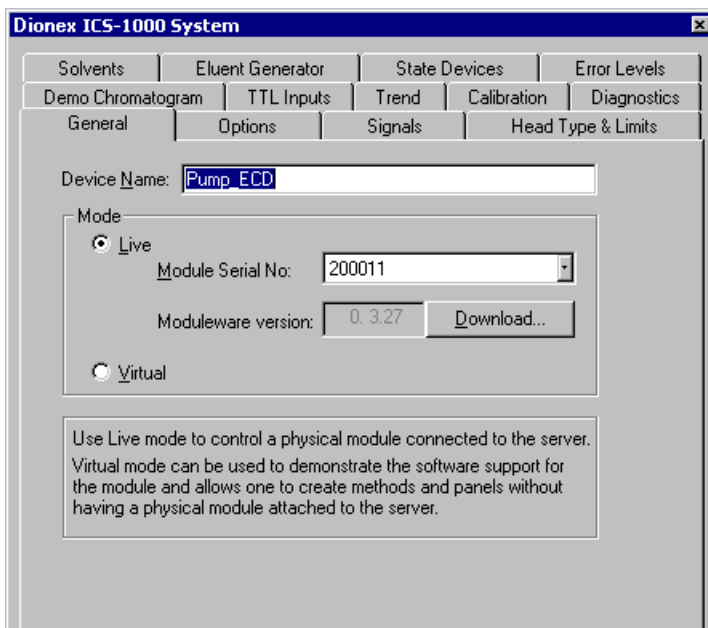

Figure B-14. ICS-1000 System Properties
3. The ICS-1000 System dialog box opens (see Figure B-14). The **General** page shows the Device Name (**Pump_ECD**), the Mode (**Live**), and the Module Serial No.